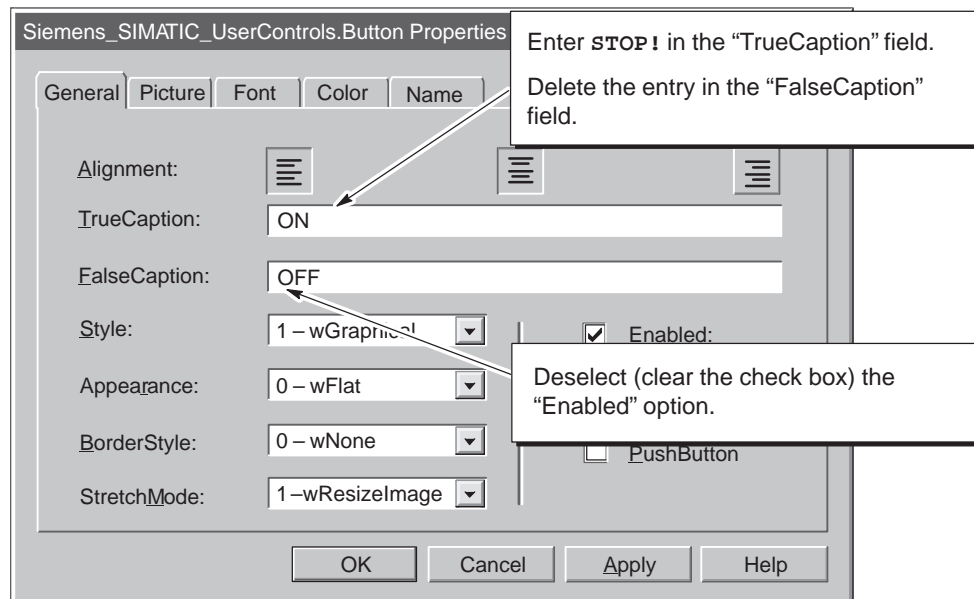

Figure 3-21 Configuring the Caption for Button1 (Button Control 1)
4. As shown in Figure 3-21, modify the labels (captions) for the control:
5. Click on the check box for the Enabled property and deselect this property. See Figure 3-21.